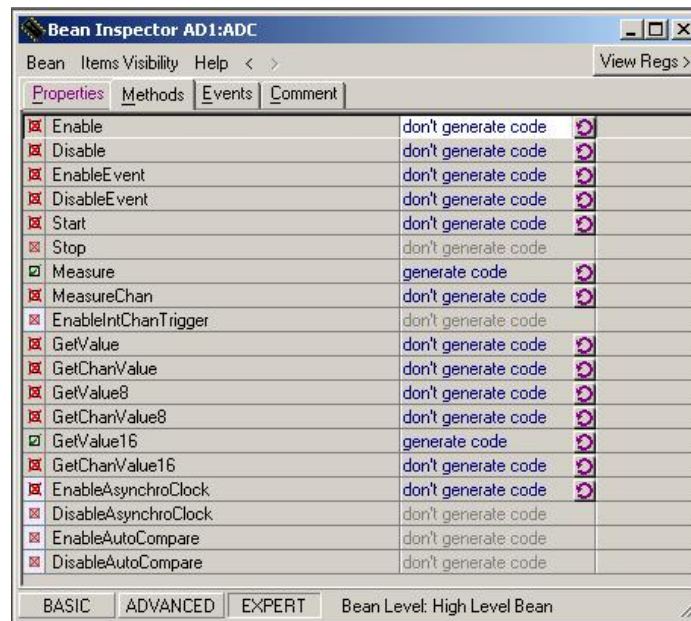

Figure 28. Bean Inspector window - Methods for ADC Bean
5. If needed select the Methods to create by selecting the Methods tab (Figure 28) in the Bean Inspector window. Click the round arrow button (🔄). For this bean, the methods that can be used are: